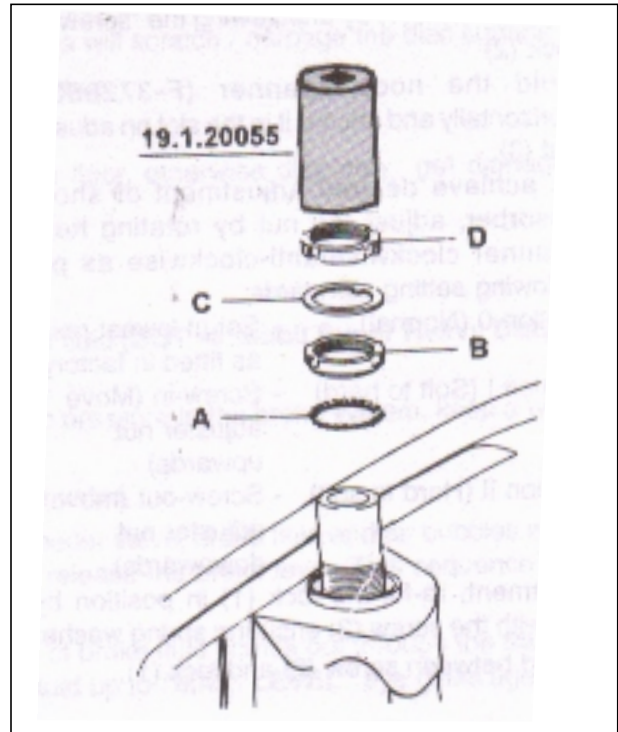

Fig. 120-Steering Column
- (d) Adjust the steering column by loosening or tightening the bearing cone 'B'. (fig.120).